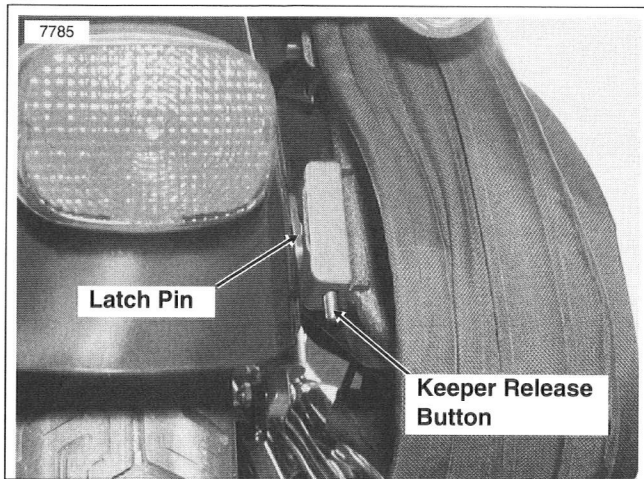

Figure 47. Keeper Release Button
1. See Figure 47. Push keeper release button in while slightly pulling lower portion of saddlebag away from fender. Firmly push saddlebag up and forward at the same time to disengage saddlebag from docking points.